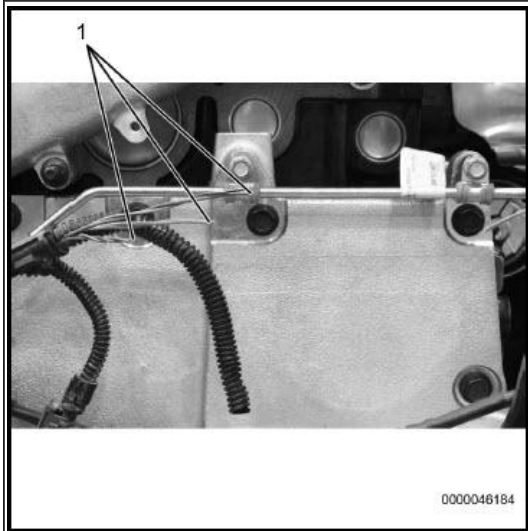

Figure 4: Measurement of Splice Locations.
1. Splice location measured and cut (3).
11. Cut harness kit wires and engine harness wires at splice locations (*Figure 4, Item 1*).